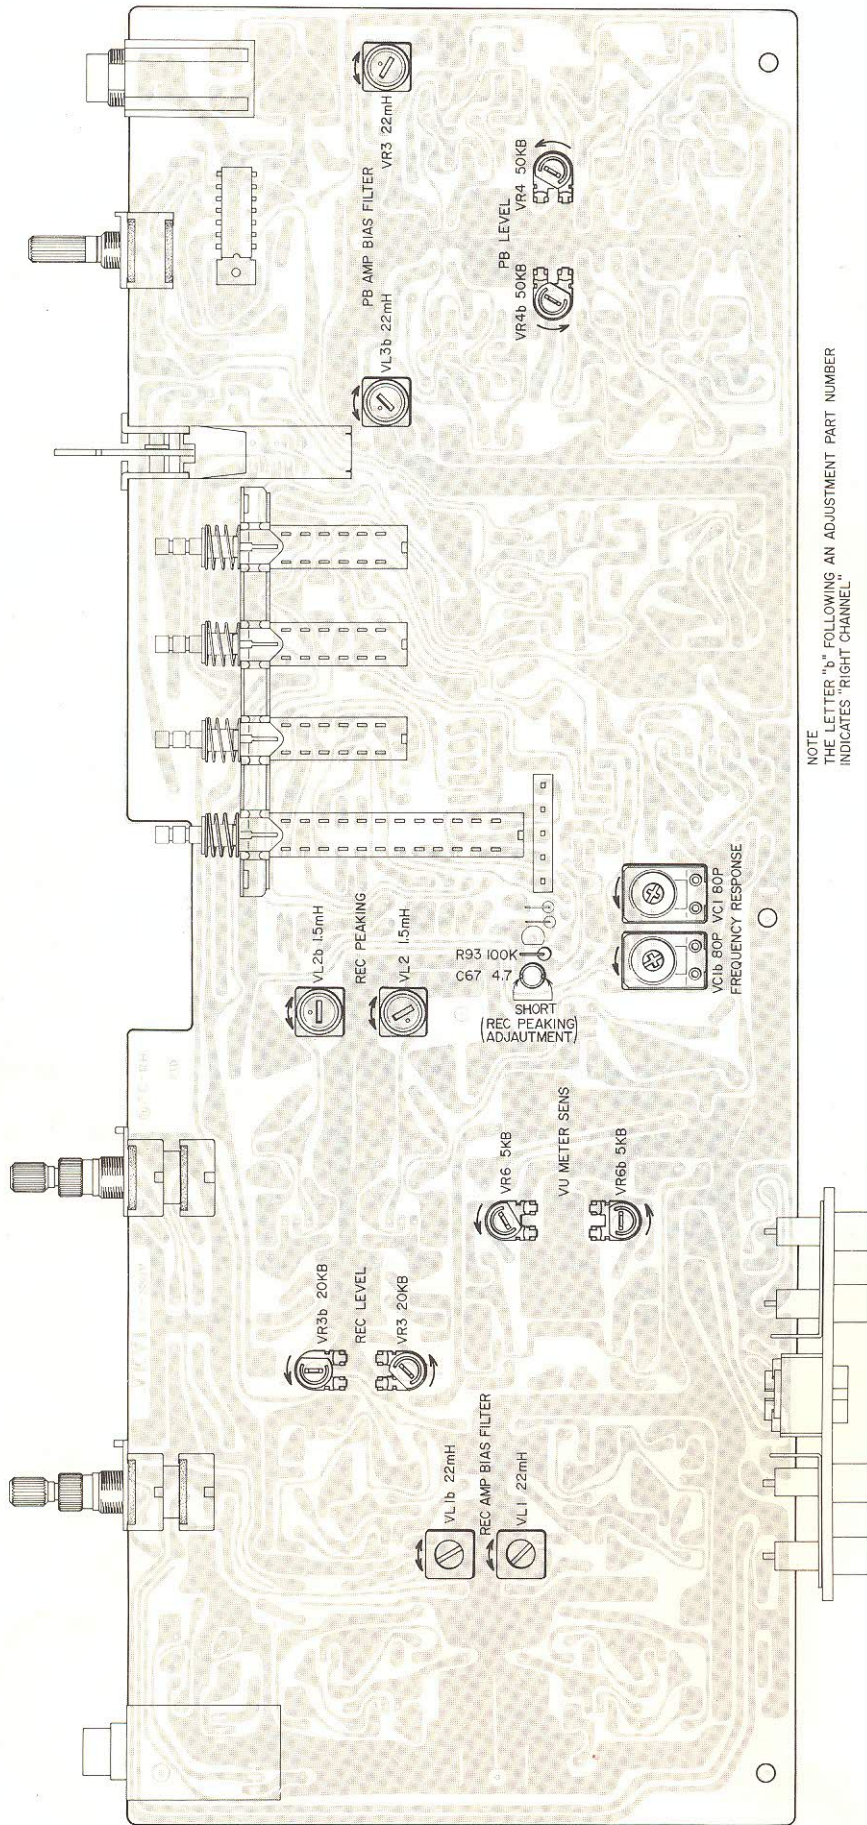

Fig. 23 Pre Amp P.C Board TG-5001A
4. Stop recording bias oscillator while making Rec Peaking Adjustment. (Refer to Fig. 23)